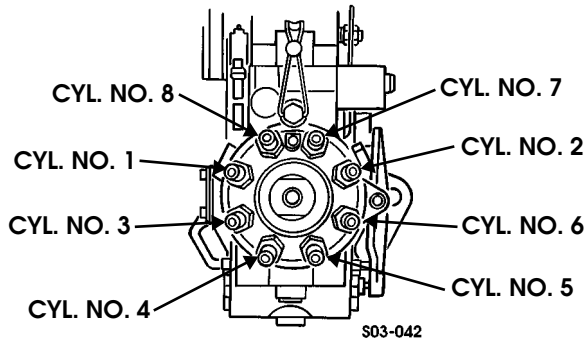

Figure 3-56: Fuel Injection Pump Line Connection (NA Diesel Shown)
2. Connect injection lines to pump (Figure 3-56).